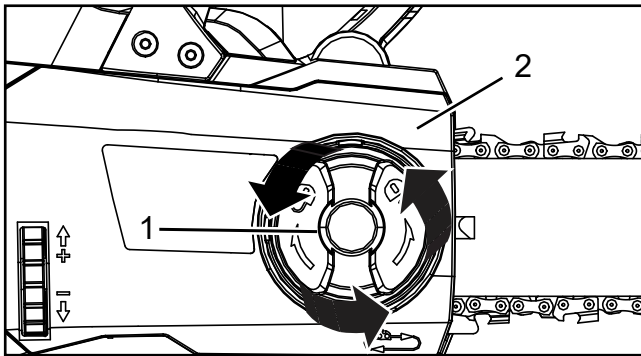

Figure 8 - Remove cover
2. Rotate the side cover lock counterclockwise to remove the cover from the saw's body (Figure 8).
1. Rotate the side cover lock and remove the cover of the saw's body (Figure 8).